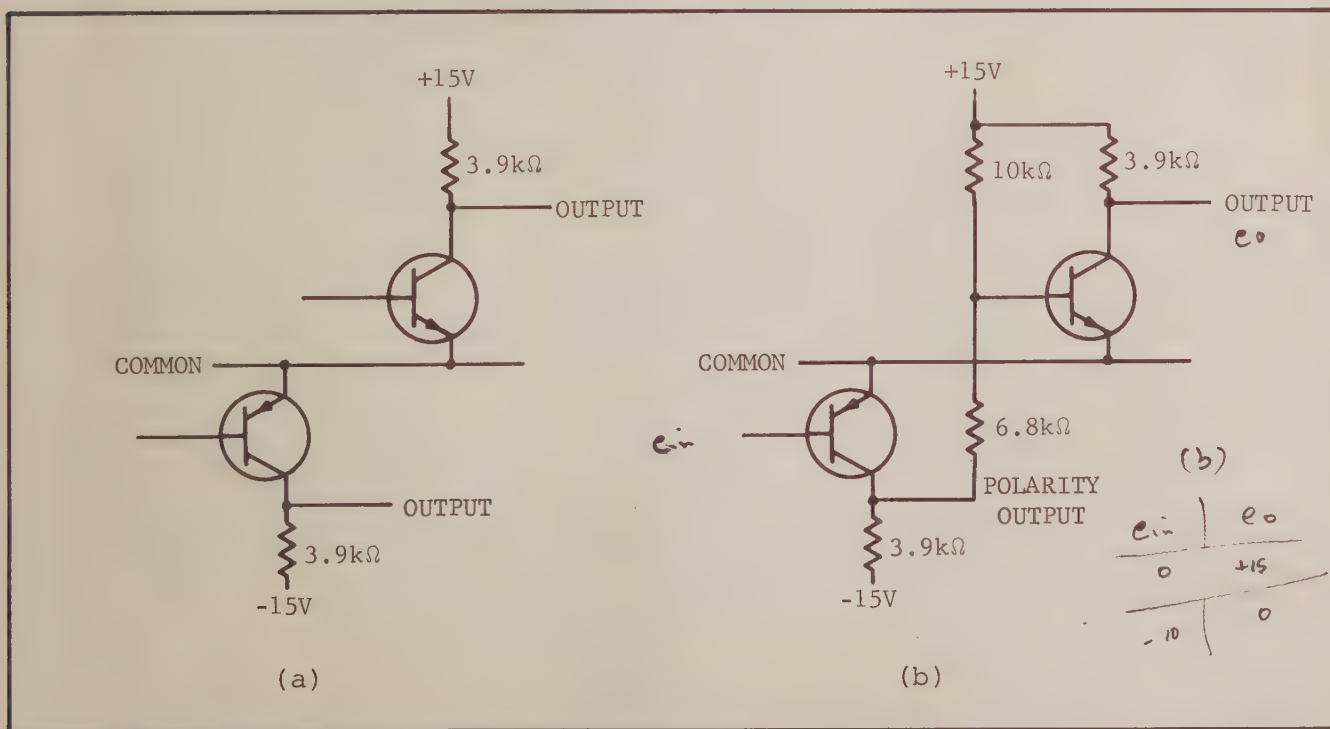

FIGURE 5. Typical BCD Output. (a) Positive and negative logic (b) Inverter for Polarity Output
b. Polarity Output. This output can be used to indicate the polarity of the input current. The output logic "high" state is defined as a level between 10 and 13 volts with respect to common. The "high" output is negative. If positive logic is required, an inverter circuit should be used as shown in Figure 5.